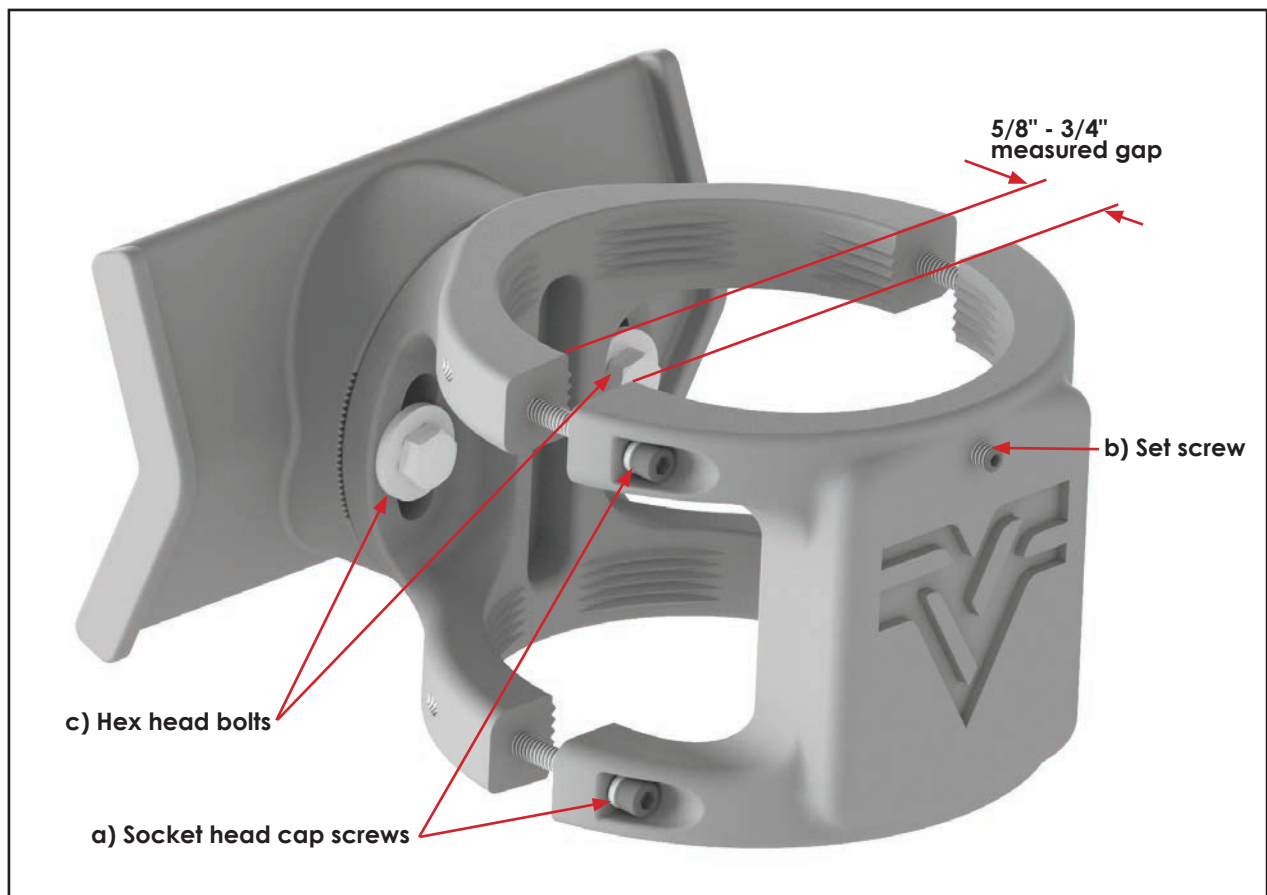

Figure 3
- a) Loosen all four socket head cap screws until you reach a 5/8"-3/4" gap in the clamp halves (as indicated in figure 3). The threads of the screws are still holding the two clamp halves together.